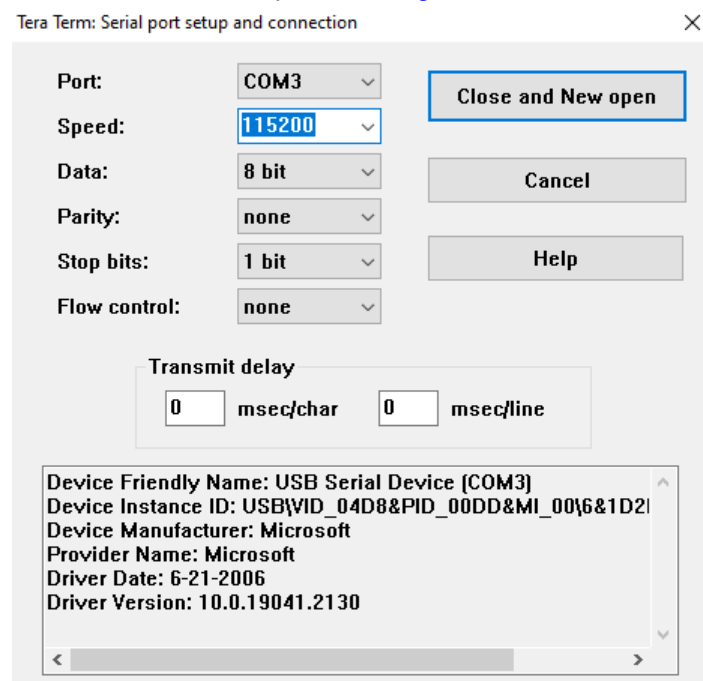

Figure 4-2. Serial Port Setup and Connection
4. A new window will appear. Select the COM port that the eSOM7 is connected to (not COM1). Change the speed to 115200 and click "Close and New open", see Figure 4-2.